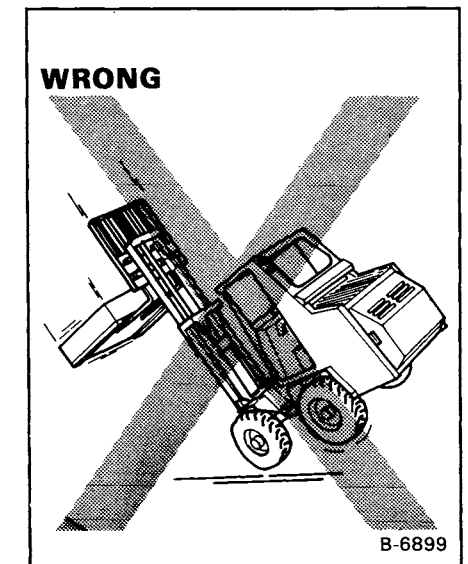

Fig. 33 Load, Carry and Unload Safety
8. Raise the vertical mast only high enough to avoid obstructions on rough ground (Fig. 33).